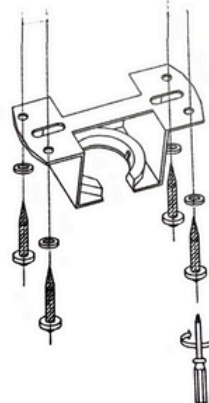

Figure 1
1. Fix the hanger with screws at the reserved ceiling position. (Figure 1)